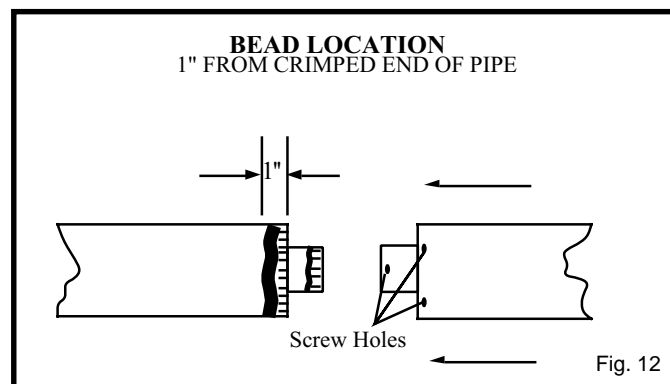

Fig. 12
Before joining elbows and pipes apply a bead of high temperature sealant to crimped end of elbow or pipe. (Fig.12)
Join pipes and secure joints with three (3) sheetmetal screws. (See Fig. 12) Wipe off excess sealant.